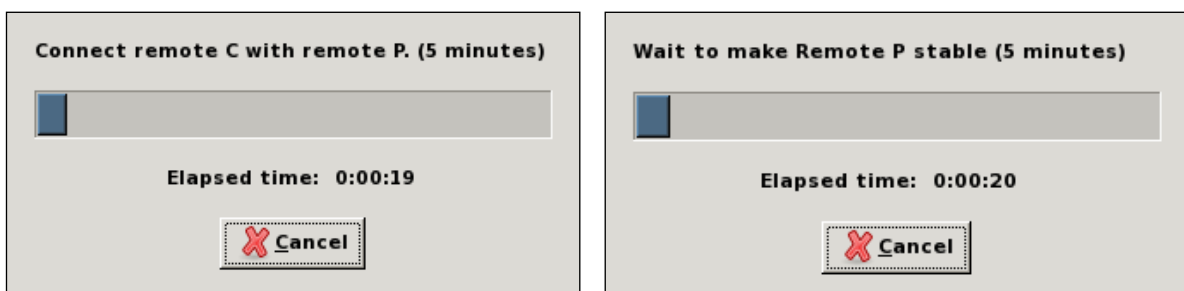

Figure 86 The two Depolarize dialogs
- Follow the instruction on the first dialog (Figure 86)